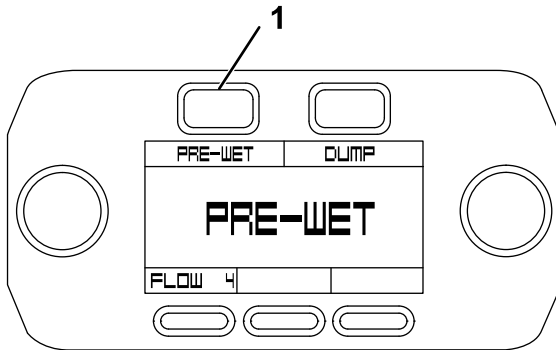

Figure 54
- On the pre-wet screen, press the Pre-Wet button (Figure 54).